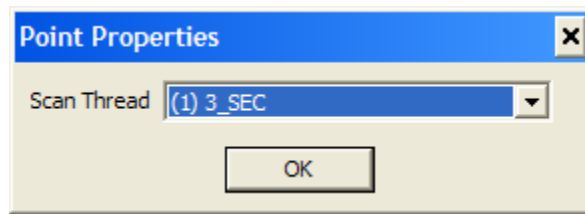

Figure 31 Point Properties
After you have selected the point type and which parameters to include, you will be presented with the dialog in Figure 31. This dialog allows you to select which scan thread should update the point’s function block in DeltaV. “(0) Inherit from <device name>” is the default option and assigns the point to whatever thread was specified in the device configuration.